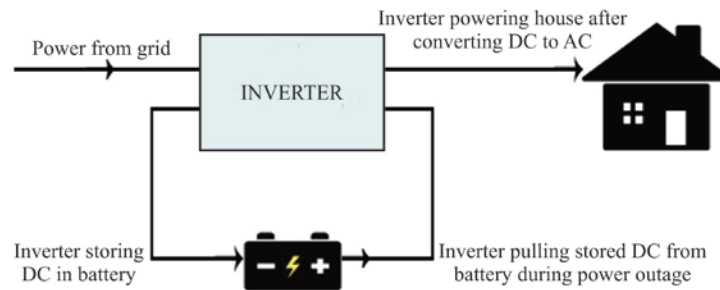

Figure 4: An inverter system
It converts the energy stored (DC) in the battery to AC energy that powers your appliances when there is power outage as illustrated in figure 4.